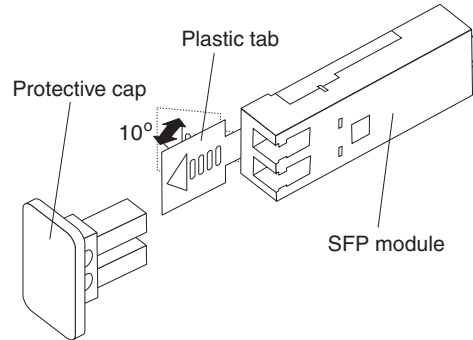

Figure 14. Unlocking the SFP module latch
2. Unlock the SFP module latch by pulling the plastic tab outward 10°, as shown in Figure 14.